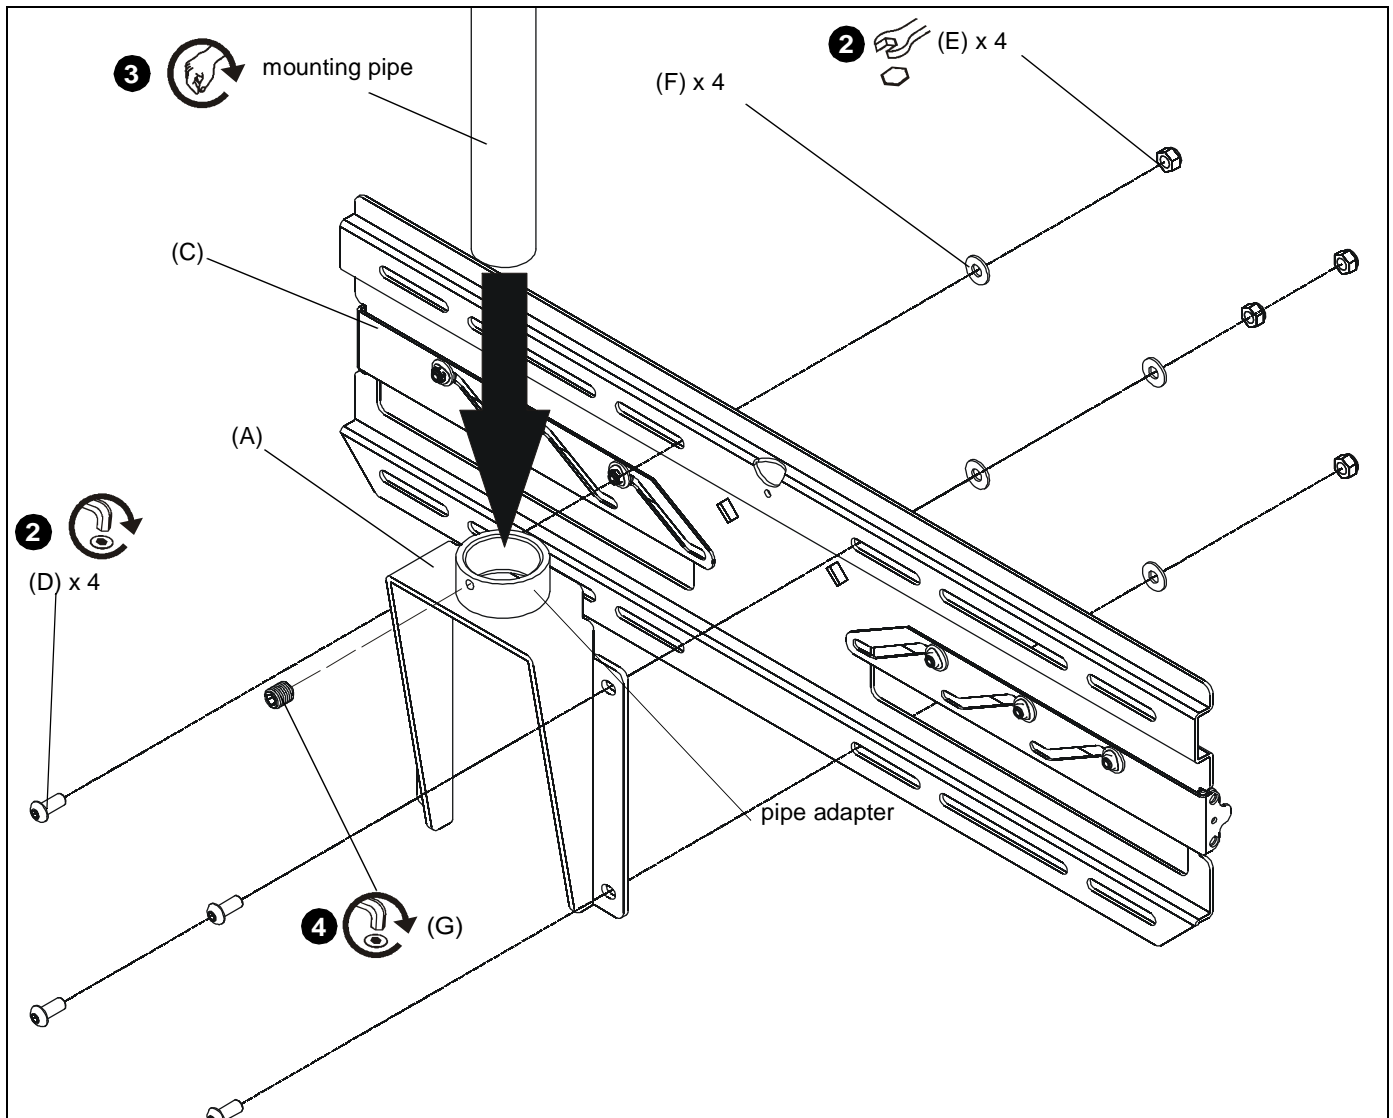

Figure 1
1. Install four 5/16-18 x 3/4" button head cap screws through RLT Bracket (A), LP tilt mount (C), 1/4" washers (F) and into 5/16-18" lock nuts(E). (See Figure 1)
2. Use 3/16" hex key and 1/2" wrench to tighten screws to lock nuts. (See Figure 1)
3. Connect mounting pipe (not included) to pipe adapter in RLT bracket by turning it until it is secured as tightly as possible. (See Figure 1)
4. Secure mounting pipe to pipe adapter using 5/16-18" set screw (G). (See Figure 1)
5. Refer to ceiling plate manual for details on connecting ceiling flange (B) to ceiling and mounting pipe.